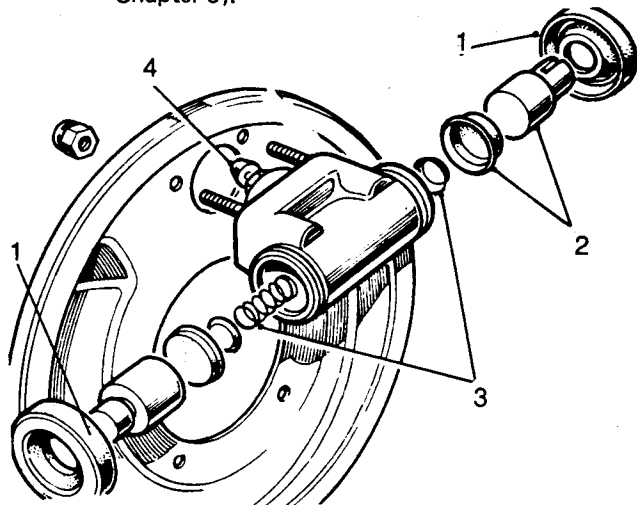

Fig K1.35
- (2) Refer to Fig K1.35. Withdraw the dust covers (1).
- (3) Withdraw the pistons and seals (2).
- (4) Withdraw the spring and seal supports (3).
- (5) Remove the bleed screw (4).